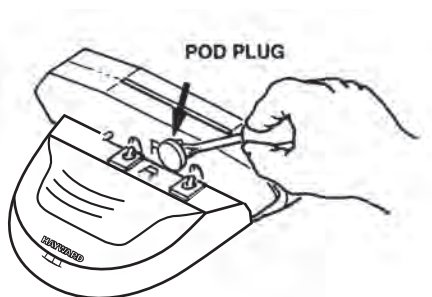

Figure 9
1. **Check the condition of the “shoes, wings and flaps” periodically.** The shoes and wings have wear indicators on their sides and should be checked occasionally to determine if they need replacing. The shoe wear indicator is a line on the side of the shoe that appears as a difference in texture. When this texture difference is no longer visible at the bottom of the shoe when viewed from either side, the shoes must be changed (*see Figure 8*). Also on the side, the wing wear indicator is a horizontal line which has three (3) vertical lines above it. When you can no longer see the horizontal line, the wings must be changed (*see Figure 9*). The Hayward Tune-Up Kit is available from your dealer. Shoes, wings and flaps may also be purchased separately.
- a) Using a screwdriver, remove the plugs from both pods (see Figure 9).